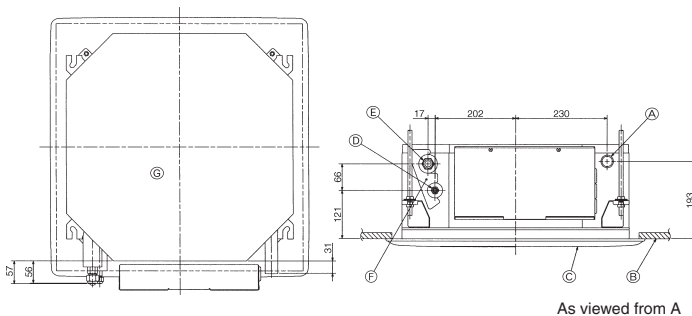

Fig. 3-1
3.1. Refrigerant and drainage piping locations of indoor unit (Fig. 3-1)
- (A) Drain pipe